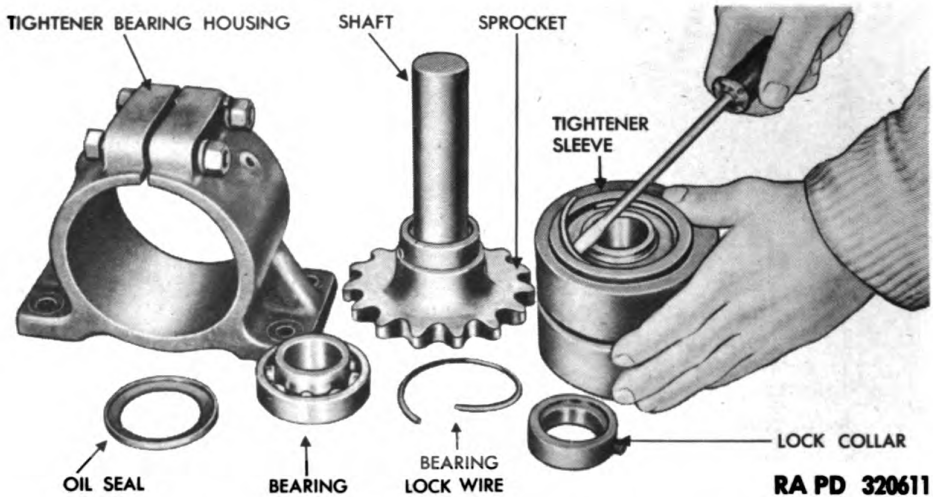

Figure 50 — Removing Bearing Lock Wire
a. Disassemble. Loosen the set screw check nuts, and remove the set screws from the chain tightener housing. Slide the chain tightener assembly out of the housing. Remove the set screw from the rear chain tightener collar, rotate the collar slightly until it is free, and slide it off the shaft. Loosen the set screw in the sprocket end chain tightener collar, and rotate the collar until it is free on the shaft. Slide the shaft out of the chain tightener sleeve. Remove the snap rings from either side of the chain tightener sleeve, and tap out the bearings (fig. 50). Remove set screw from the sprocket hub, press the sprocket off the shaft, and lift out the sprocket key (fig. 47).